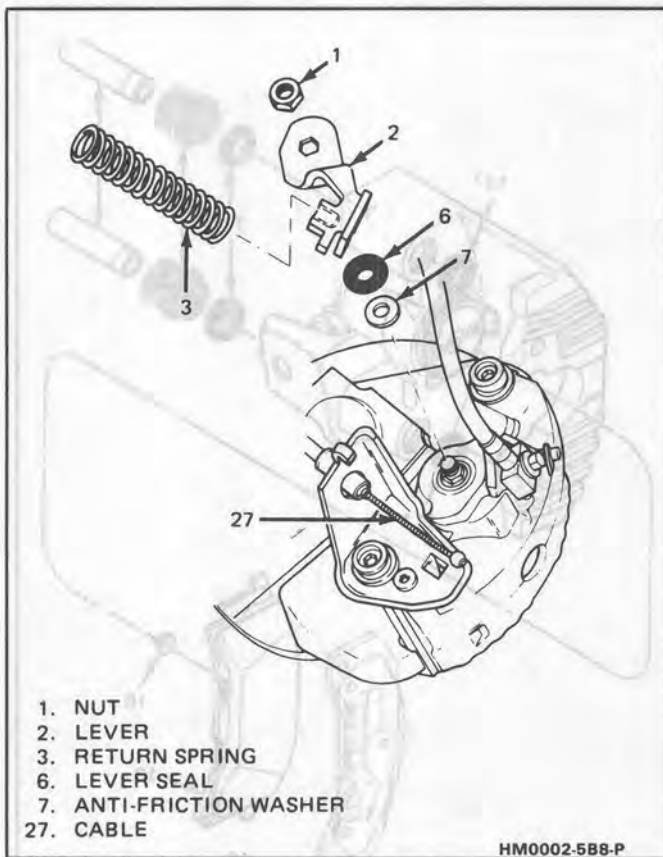

Fig. 2 Parking Brake Cable Attachment
9. Reinstall anti-friction washer (7), lever seal (6) (sealing bead against housing), lever (2) and nut (1) (Figure 2).
- Disconnect nut (1), lever (2), lever seal (6) and anti-friction washer (7) (Figure 2).
7. Anti-friction washer (7) (Figure 2).
9. Lever (2) on actuator screw hex with lever pointing down (Figure 2.)
11. Return spring (3) (Figure 2).
12. Parking brake cable (27). For cable adjustment see PARKING BRAKE ADJUSTMENT (Figure 2).